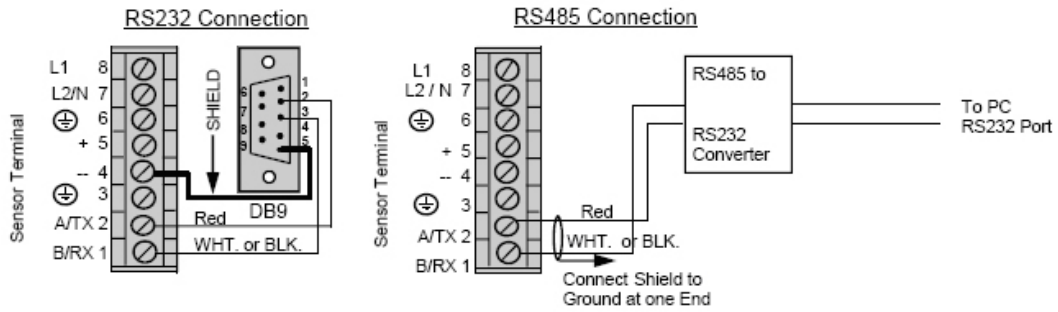

Figure 4
4. To connect RS232 or RS485 cables. (See Figures 4 and 5, page 14.)
Connect to Serial Port of PC, use Extension Cable length as required, Refer to Figure 4 for wiring detail.